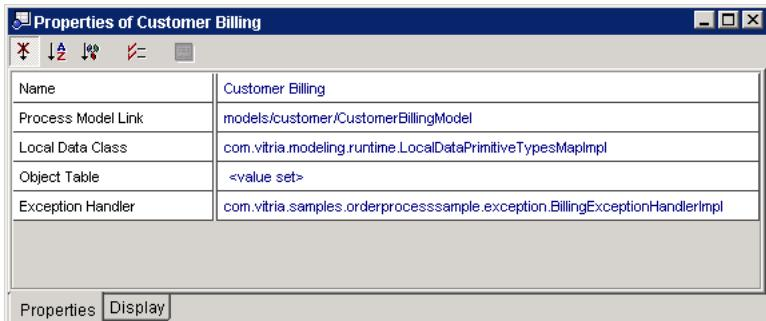

Figure 26-5 Specifying Exception Handler Class Property
8. In the BME, enter the *fully qualified* Java class name for the Exception Handler property as shown in Figure 26-5.